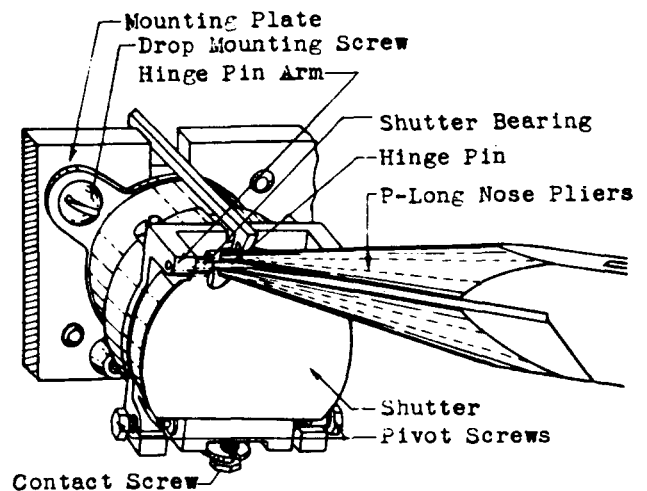

Fig. 5 — Method of Removing Shutter Pin
*M-1* If the shutter does not move freely on the hinge pin, it may be due to dirt collecting at the bearing points. Remove the pin by grasping it as shown in Fig. 5 with long nose pliers and drawing the pin to the right through the left hinge pin arm until the shutter can be removed.